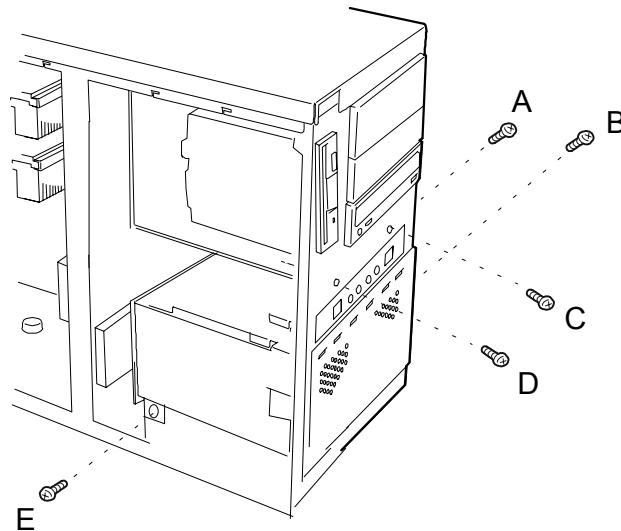

Figure 4-20. Removing the Hard Disk Drive Bay
5. Remove the two mounting screws securing the drive bay to the right side of the chassis. See Figure 4-20, A, and B.
6. Remove the two mounting screws securing the drive bay to the front of the chassis. See Figure 4-20, C, and D.
7. Support the drive bay and remove the mounting screw securing the drive bay to the left side of the chassis. See Figure 4-20, E.
- 15.** Secure the drive bay to the chassis with the two front mounting screws removed in Step 6. See Figure 4-20, C and D.
- 16.** Install the mounting screws that secure the drive bay to the right side of the chassis. See Figure 4-20, A and B.
- 17.** Install the mounting screw that secures the drive bay to the left side of the chassis. See Figure 4-20, E.